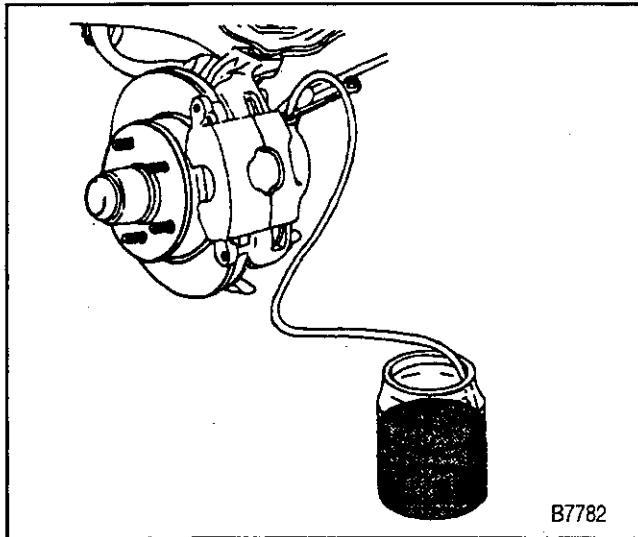

Figure 13—Immersing the Bleeder Hose
- Immerse the opposite end of the hose into a container partially filled with clean brake fluid (figure 13).